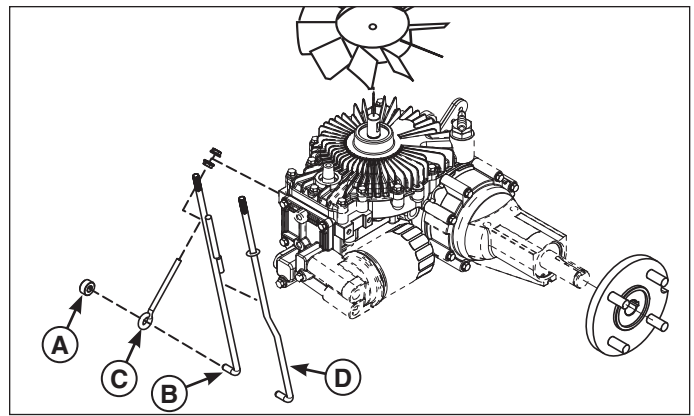
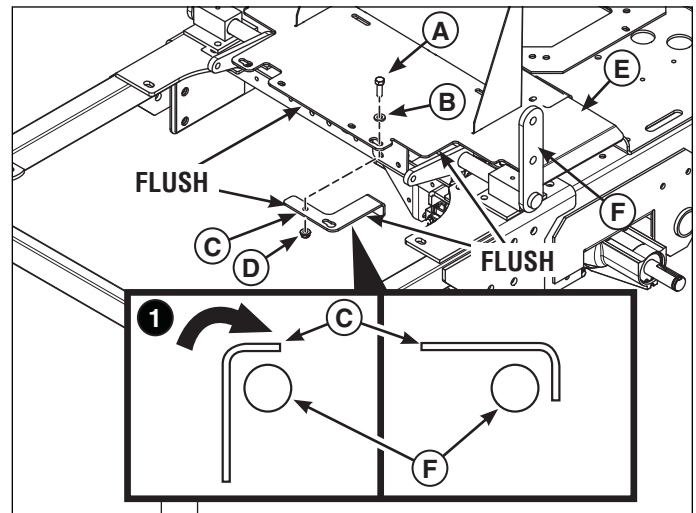

Figure 12. Replacing the LH Dump Valve Handle
Figure 13. Installing the Dump Valve Guide Plate
1. Loosen and remove the set collar (A, Figure 12) that secures the existing dump valve handle (B) to the eyebolt (C).
3. See insert 1, Figure 13. Position the dump valve guide plate (C, Figure 13) so that the tab is above the deck lift rod (F) and then rotate the dump valve guide plate 90° so that the tab is on the back side of the deck lift rod and the top of the dump valve guide plate contacts the bottom of the fuel tank mount.
4. Position the dump valve guide plate so that the front edge of the dump valve guide plate is flush with the front edge of the fuel tank mount and the left edge of the dump valve guide plate is flush with the left side of the fuel tank mount. See Figure 13.
5. Secure the dump valve guide plate in place using a 5/16-18 x 1" bolt (A), a 5/16 Gr.9 washer (B) and a 5/16-18 nylock flange nut.
6. Install the new dump valve handle (D, Figure 12) to the machine in the slot of the dump valve guide plate and through the eyebolt. Secure in place with the set collar. Tighten the set collar.